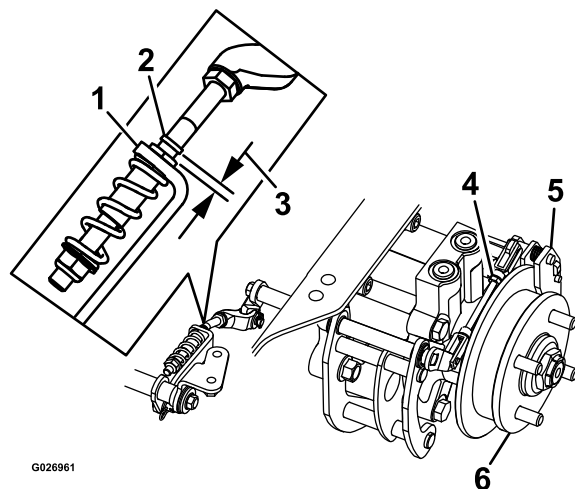

Figure 78
8. Check if there is a visible gap between the L-bracket and the linkage stop (Figure 78).